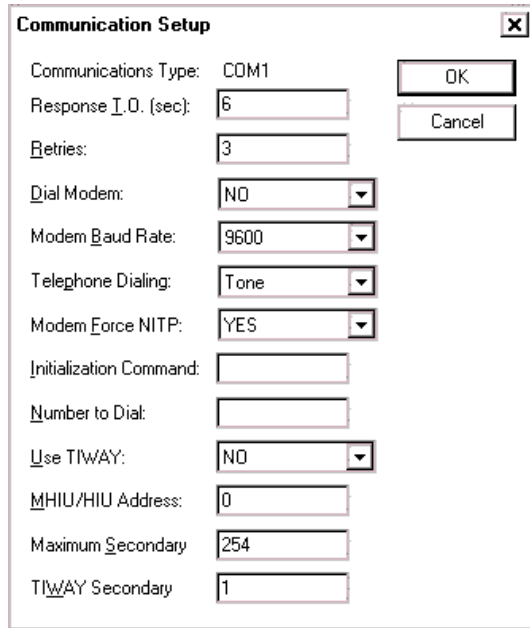

Figure 0-12
3. Click the Comm. Setup... button to initialize vendor specific device settings as shown for Siemens 505 (Figure 0-12).